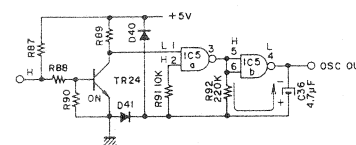

Fig. 9 Oscillation Stopped
(Refer to Figs. 9, 10)
During modes other than those listed above, TR24 is ON because base electric potential is supplied to it as shown in Fig. 9.
As a result, IC5a's input terminal ① becomes Low Level as does the IC5b output terminal ④ and oscillation stops. At this point, C36 is discharged as shown in Fig. 9. IC5a's input terminal ② is High Level according to C36's electric potential.